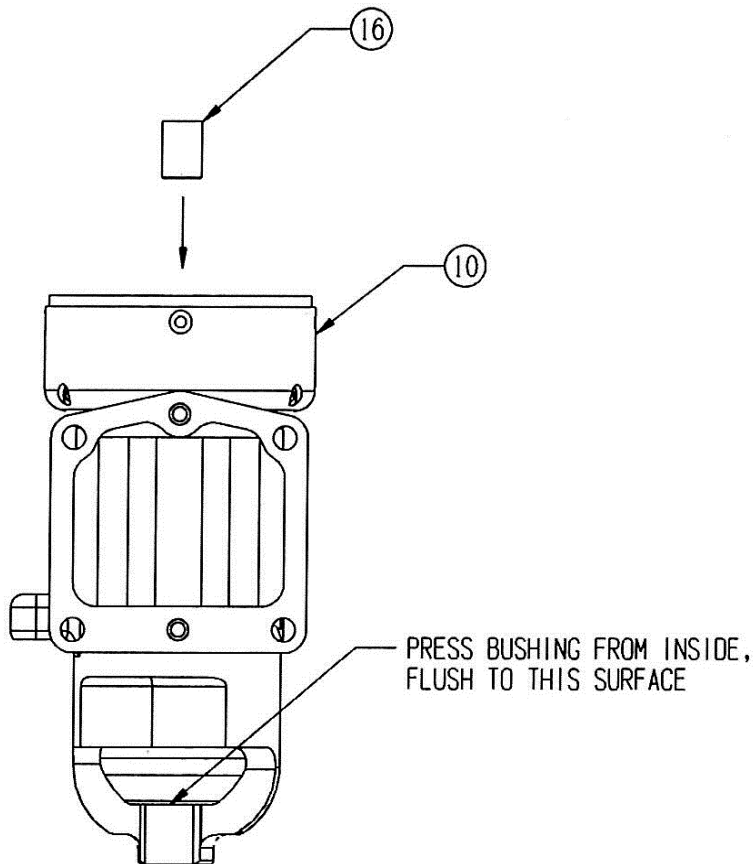

Fig 3: Nose Bushing Installation
- 4) Starter Nose Assembly: Inspect Ring Gear for play or excessive tooth wear. Inspect Engine Pad pins for signs of being loose or missing. Replace Starter Nose Assembly if either of these happens. Inspect nose casting (#10) for cracks, unapproved modifications, or corrosion, replace if any of these conditions are found. (see figures 3,9, &10)
Apply RC680 Loctite to outer surface of new Bushing (#16) and press from inside flush with inner surface of casting (#10). (see figure 3)